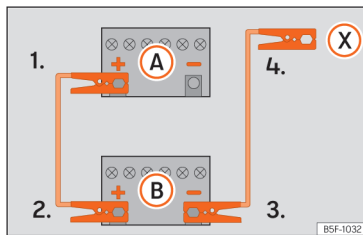
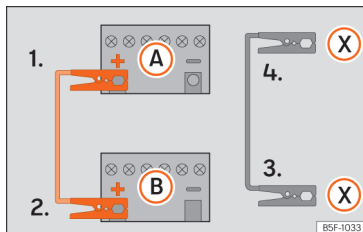

Fig. 209 Diagram of connections for vehicles without Start Stop system
Fig. 210 Diagram of connections for vehicles with Start Stop system
The jump leads should only be connected in the order **1 > 2 > 3 > 4** »» Fig. 210.
4. *Vehicles without a Start-Stop system:* connect one end of the black jump lead to the negative terminal (-) of the vehicle providing the current **B** »» Fig. 209. *Vehicles with a Start-stop system:* connect one end of the black jump lead **X** to a suitable ground terminal, to a solid piece of metal in the engine block, or to the engine block itself »» Fig. 210.